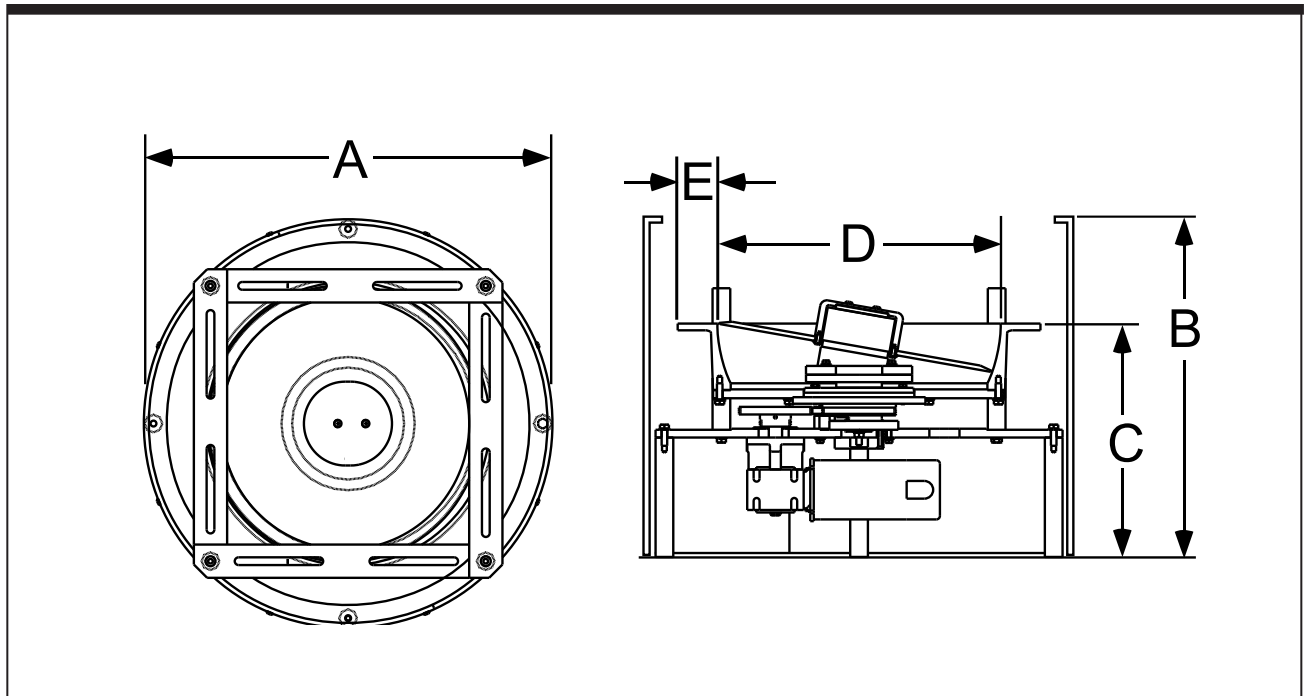

Figure 1-2. FT-15-RD Side and Top Views (Single Drive Shown)
**Function** The delivery rate varies depending on product characteristics. The feeder easily interfaces with Shibuya Hoppmann's prefeeders, accumulating conveyors and assembly equipment. (See to Figure 1-2 for the FT-15-RD product specifications.)